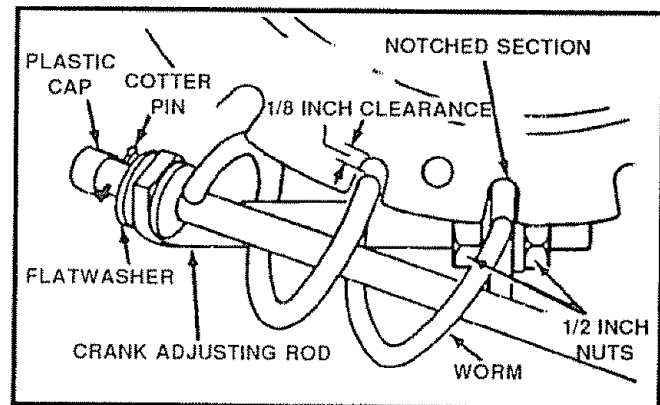

FIG. 5
- Remove the plastic bag, plastic cap, cotter pin and washer from the crank assembly and set aside (See Fig 5)
- Rotate the notched section of the discharge chute toward the crank-adjusting rod (See Fig 5)
- Install the wormed end of the crank through the hole in the crank adjusting rod and secure the end with the flat washer and cotter pin, as shown in Fig 5
- Bend the ends of the cotter pin around the rod and reinstall the plastic cap (See Fig 5)
- Rotate the chute crank fully clockwise and fully counter-clockwise. The discharge chute should rotate fully to the outer diameter of the worm and should clear approximately 1/8" (See Fig 5)